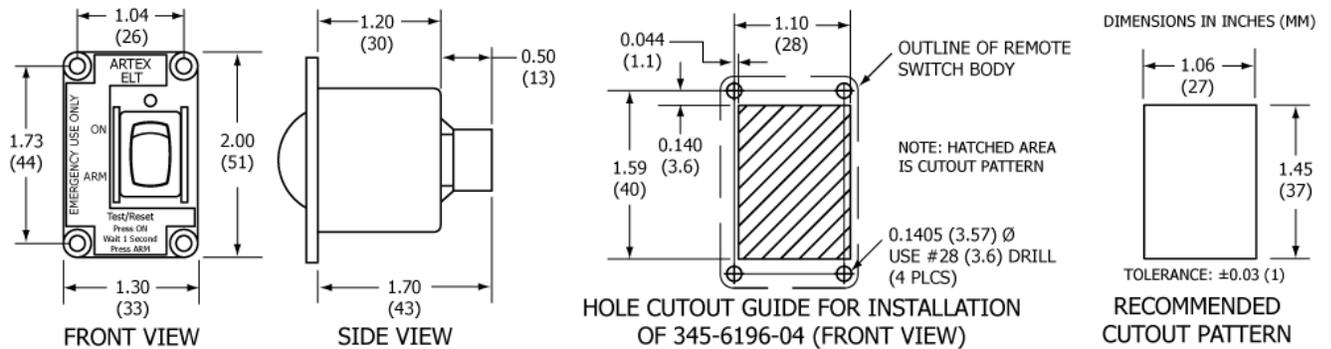

Figure 19 Remote Switch Outline and Dimensions
- 2) The switch assembly requires a space approximately 2.0 x 1.3 in. (51 x 33 mm) on the panel surface and behind the panel. See Figure 19 Remote Switch Outline and Dimensions.
- 1) Mark out the cutout on the cockpit panel. See Figure 19 Remote Switch Outline and Dimensions.